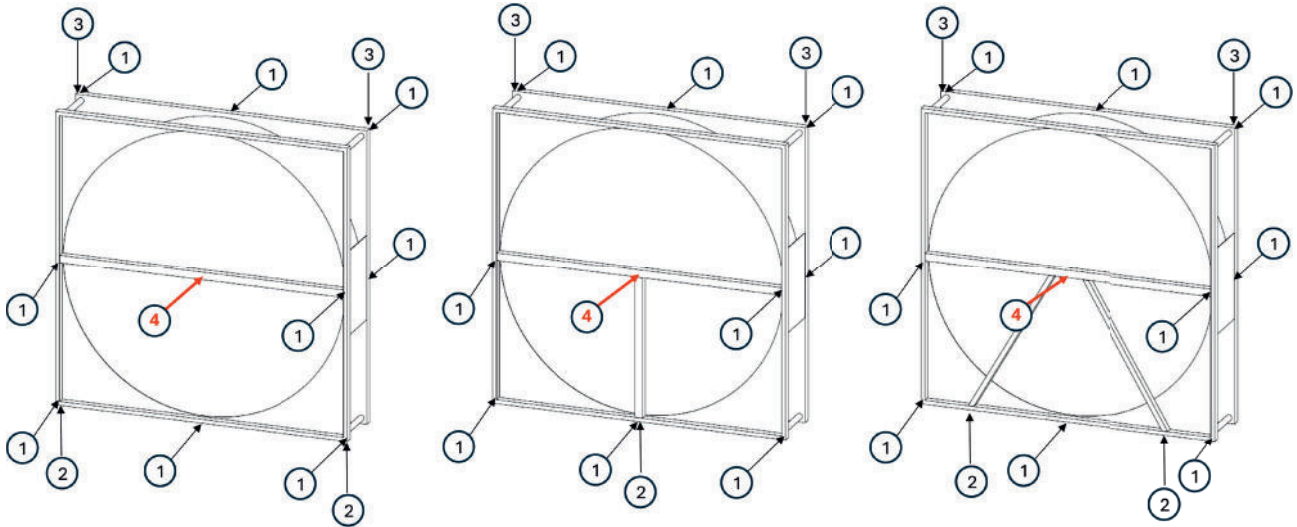

Figure 22: Vertical top/ bottom airflow.
- The surrounding AHU should not be able to flex more than ± 1 mm in any position specified in the figure below while subjecting to the forces shown in Figure 22.